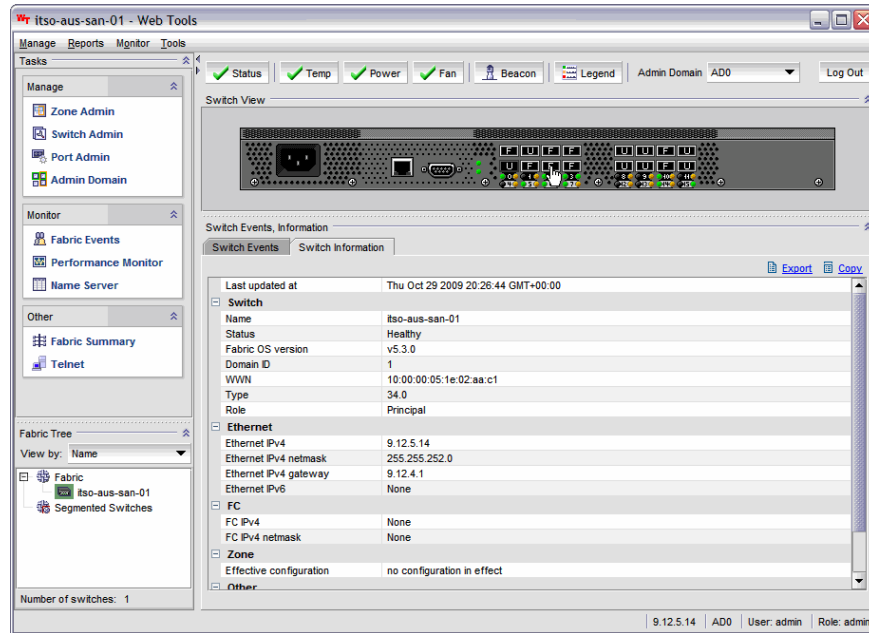
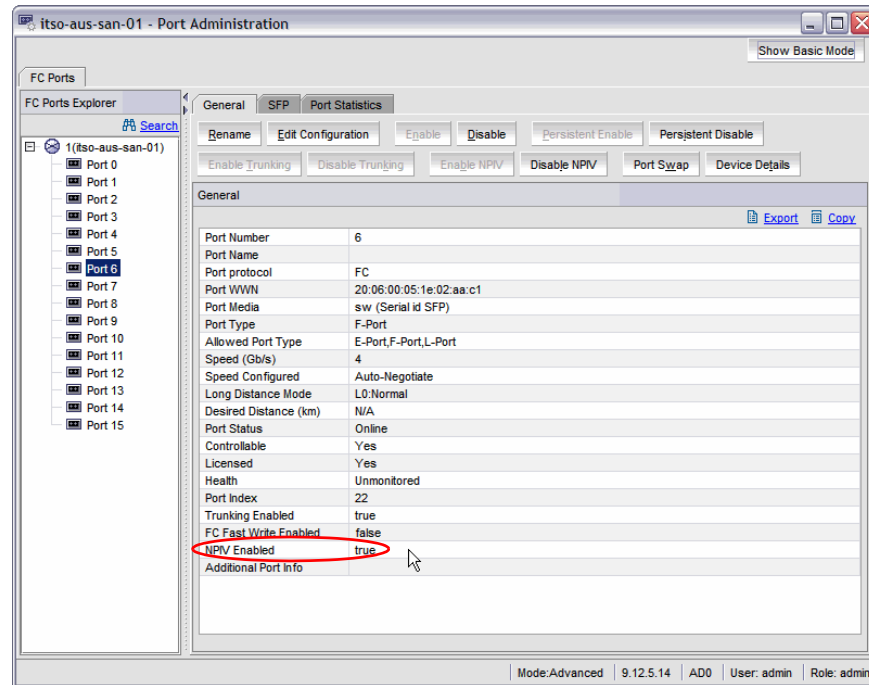

Figure 2-11 SAN Switch panel
Figure 2-12 SAN port details
- a. Use your Web browser to point to the URL of your SAN switches' IP address, then log in to the SAN switch with a user login with at least read access. You should see a panel similar to the one shown in Figure 2-11.
- b. In Figure 2-11 on page 35, port 6 has been highlighted since this is our physical port from our cabling diagram. Click the port to bring up the port details. You will see a panel similar to that shown in Figure 2-12.
- c. Note that the port selected has the entry NPV Enabled set to a value of True. This is highlighted in Figure 2-12. If the value is set to false then this should be rectified before continuing this procedure.